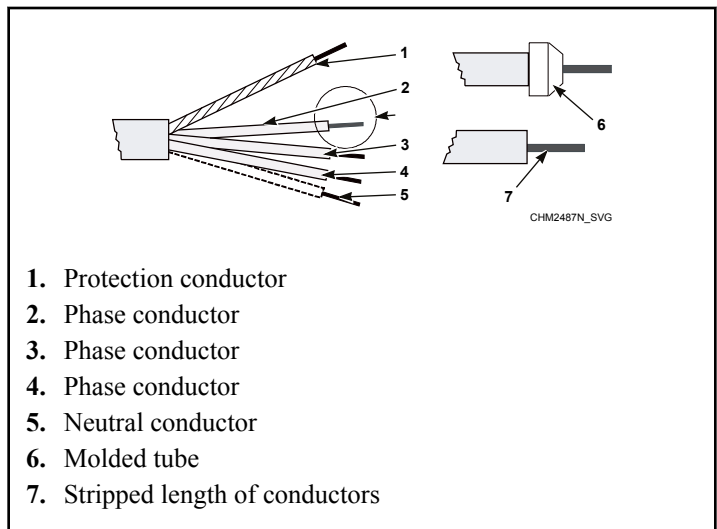

Figure 25
2. Strip the conductor ends. Refer to *Figure 25* . The protection conductor must be longer so it can be routed to the machine without tension.